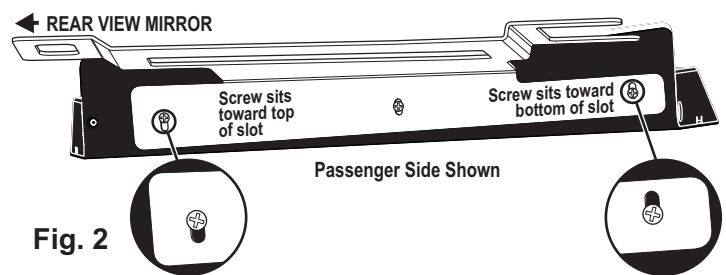

Fig. 2
3. On the vehicle **visor clip**, remove the screw holding on the clip and remove the clip. The supplied #8 X 1" sheet metal screw will replace the screw you removed (Fig. 2).
2. Mount the bracket to the light array. Pivot the bracket as shown so the bracket tilts down on the side nearest the mirror and up on the road side (Fig. 2). Tighten hardware firmly.